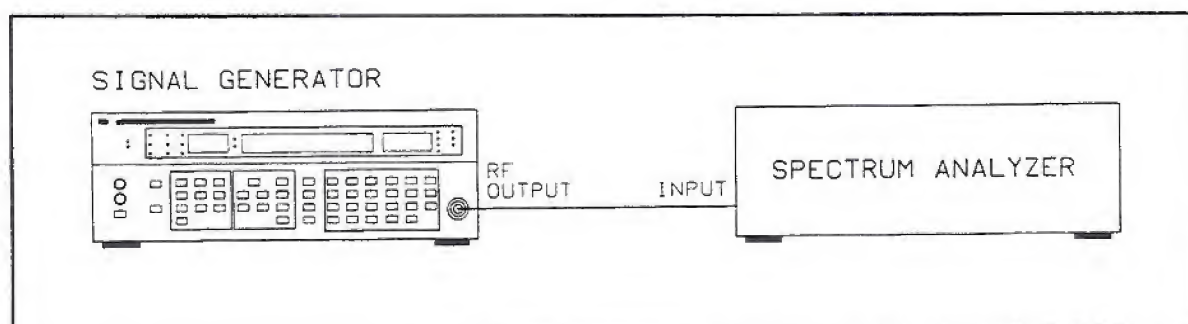

Figure 4-1. Spurious Signals Test Setup
3. Connect the RF OUTPUT of the Signal Generator to the input of the spectrum analyzer as shown in Figure 4-1. Verify that all harmonics are within the specifications shown in the following table.